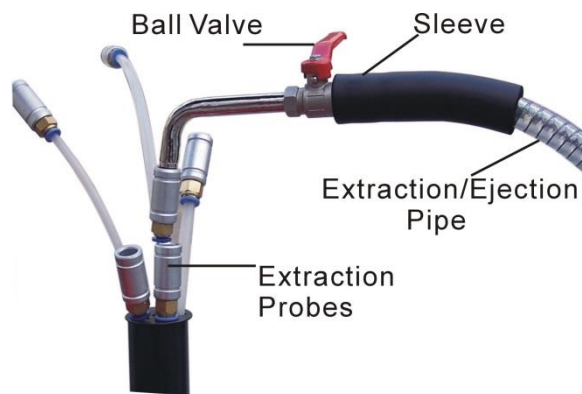

Fig. 2
2. Choose suitable probe (which is the largest diameter one can be inserted into the engine) and tightly connect it to the extraction pipe connector. (refer to Fig.2)
4. open the ball valve (see Fig.2),the oil will be extracted into the oil tank from engine.
5. After finish extraction, turn off the extraction ball valve (Fig.2)
8. Turn on ball valve (see fig 2 on page 7) gradually; the waste oil will flow out from the oil tank and into the external disposal tank.